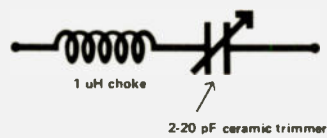

Fig. 6.
1. Second harmonic interference from a CB transmitter to channel 2 television may exist even though the transmitter meets FCC specifications for harmonic radiation. In such cases, a tuned filter across the antenna terminals of the television should help. The filter may be an inductor and capacitor in series as in Fig. 6. The filter should be tuned for minimum interference.